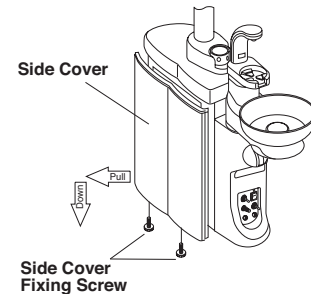

Fig.5-2 Open the Cuspidor Cover
(1) Loose the side cover fixing screw and open the both side of the cuspidor body cover. (Fig.5-2)
(2) Remove the water heater, vacuum line valve, solenoid valve from the cuspidor unit body.